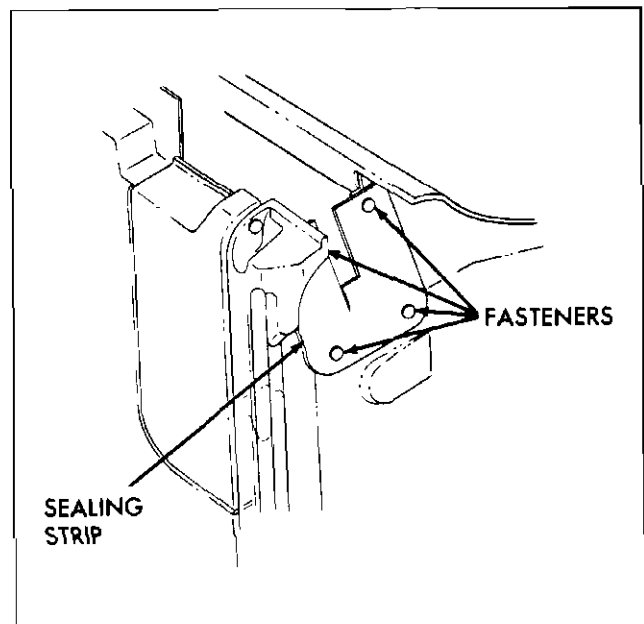

Fig. 2-6 Front Door Lock Pillar Sealing Strip
1. Remove snap fasteners securing sealing strip to lock pillar facing of front door and remove strip (Fig. 2-6).